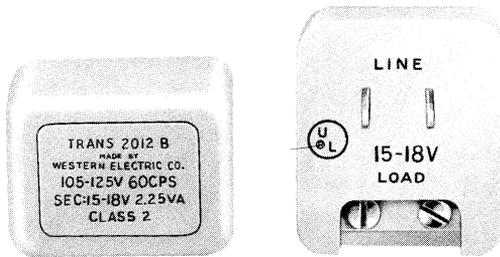

Fig. 5—2012B Transformer
- 2.09 The 2012B or 2012D transformer (Fig. 5 or 7) is intended to supply power to